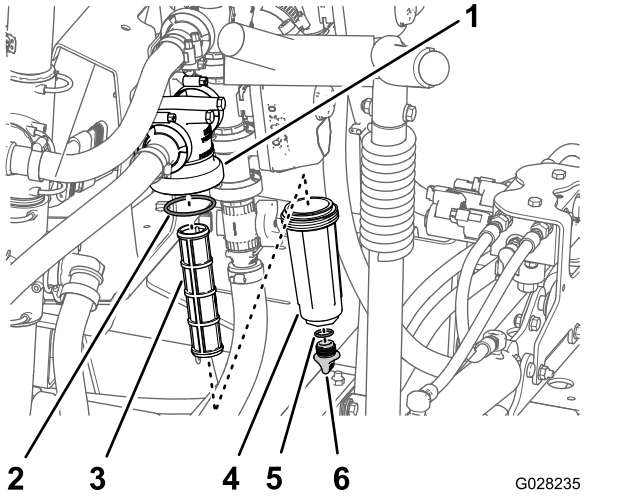

Figure 57
2. Align a drain pan under the pressure filter (Figure 57).
3. Rotate the drain cap counterclockwise and remove it from the bowl of the pressure filter (Figure 57).
4. Rotate the bowl counterclockwise and remove the filter head (Figure 57).
5. Remove the pressure filter element (Figure 57).
7. Check the gasket for the drain plug (located inside the bowl) and the gasket for bowl (located inside the filter head) for damage and wear (Figure 57).
8. Install the pressure filter element into the filter head (Figure 57).
9. Install the bowl onto the filter head, and tighten by hand (Figure 57).
10. Assemble the drain cap onto the fitting at the bottom of the bowl, and tighten the cap by hand (Figure 57).